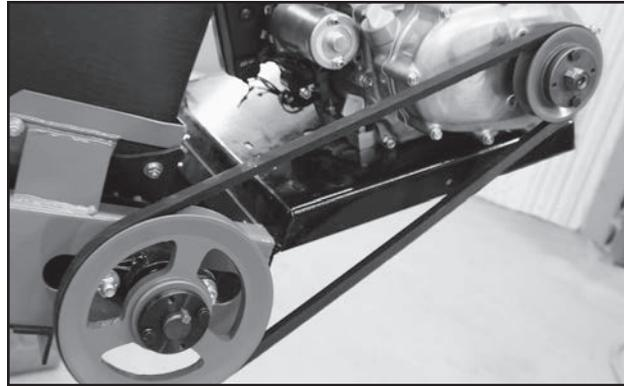

Fig 76 - Drive Belt
4. Set belt tension. Refer to instructions in Section 4.3.4. See Figure 76